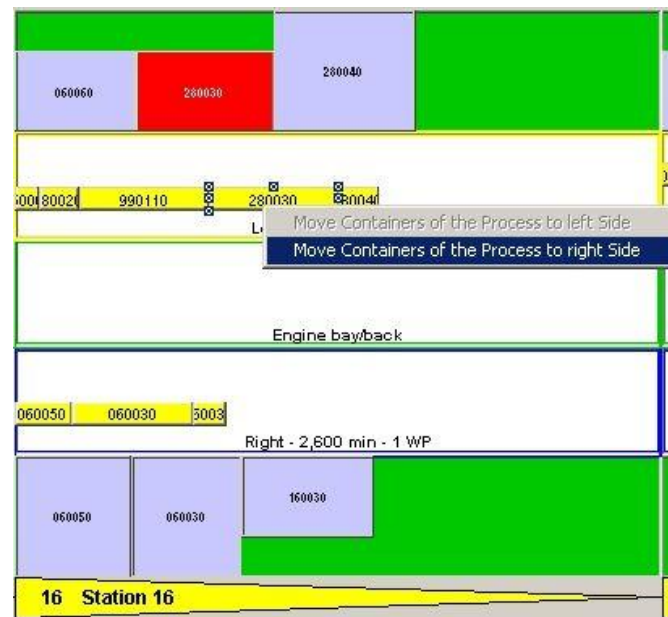

Figure 281: Open Process Context Menu
- 2) Click one of the two possible entries. *Please refer to the Figure 281.*